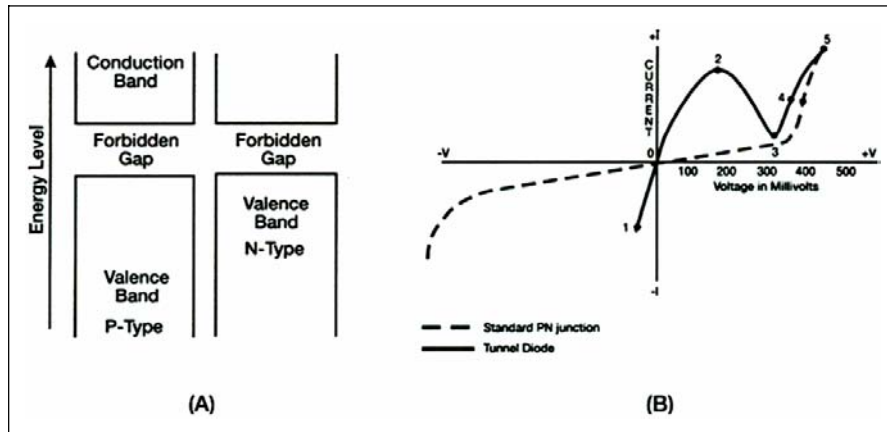

Figure 3-9. Tunnel Diode Energy Diagram With 600 Millivolts Bias
3-23. Figure 3-9, view (A), is the energy diagram of a tunnel diode in which the forward bias has been increased even further. The energy bands no longer overlap and the diode operates in the same manner as a normal PN junction, as shown by the portion of the curve in view (B) from point 3 to point 4.